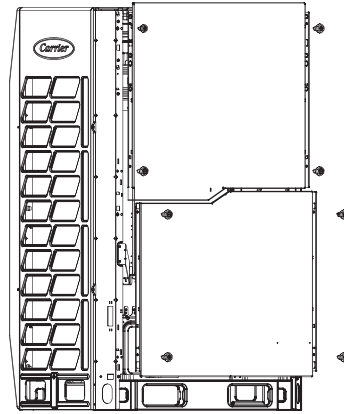

Fig.4-18
2. Dismantling the upper panel: Remove the four screws on the left and right side of the upper panel (Fig 4-18) and then lift it by about 3 mm to remove it.